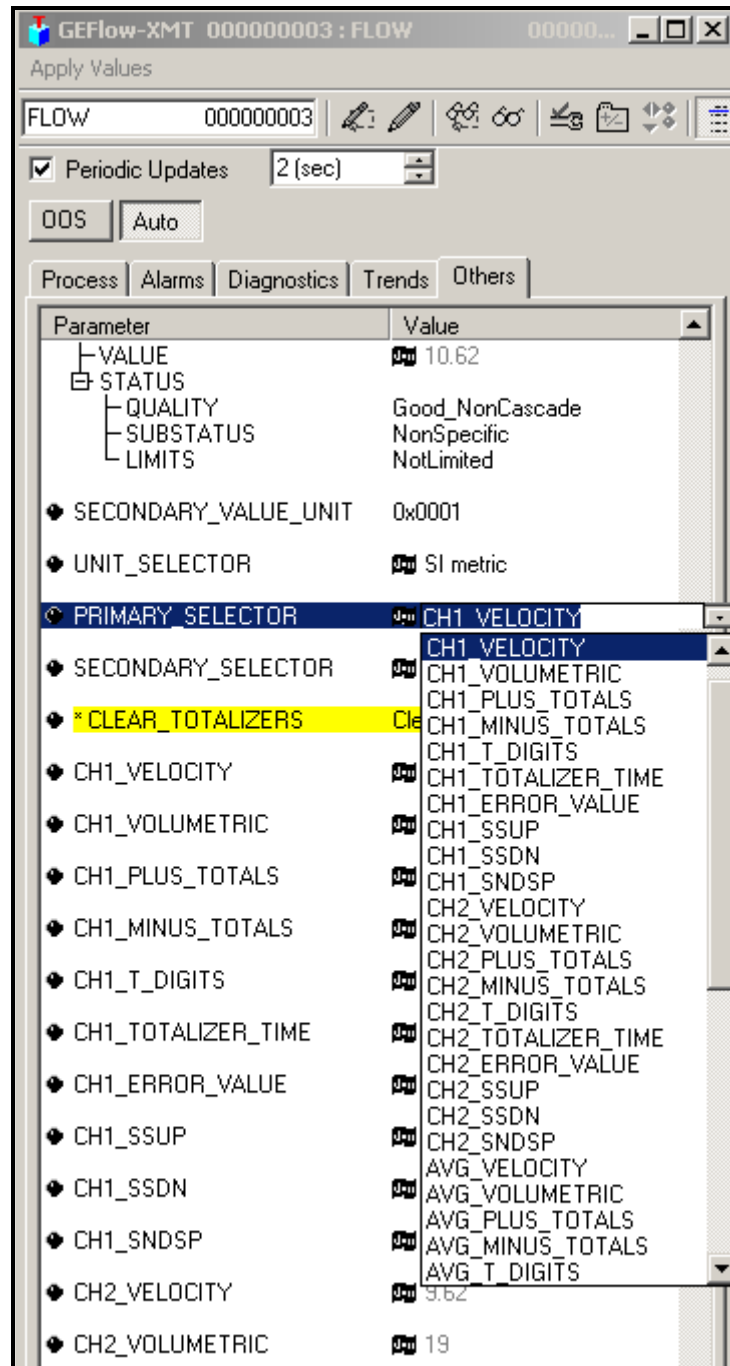

Figure 40: Primary Selector Drop Down List
2. Select the **Others** tab and open the drop down list for the PRIMARY_SELECTOR and SECONDARY_SELECTOR (see Figure 40 on page 115).
3. Choose the unit from the list (see Figure 40 on page 115).